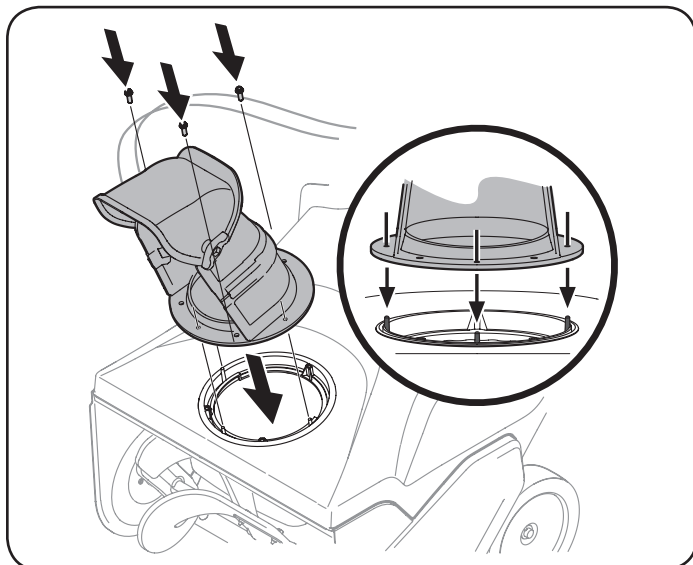

Figure 5
2. Align the holes in the chute base with the holes in the lower chute and secure with the previously removed screws. See Figure 5.